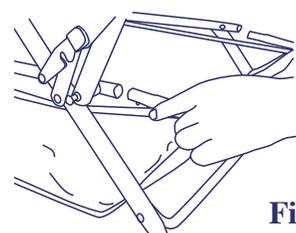

Fig. 3b
- To attach the storage basket, slide the U-shaped basket tube into the tubes at the rear of the stroller. Push the tube in until the snap button pops through the hole on the female tube. Please see figure 3b.